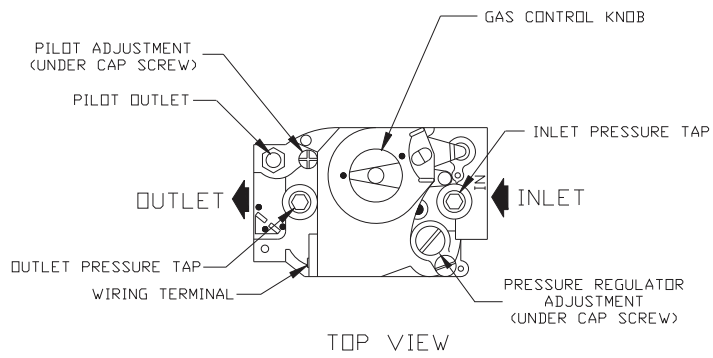

FIGURE 24a: GAS VALVE DETAIL - HONEYWELL VR8204 AND VR8304
- Connect a manometer to the inlet pressure tap on the gas valve (see Figures 24a and 24b).
- c) Connect a manometer to the manifold (outlet) pressure tap on the gas valve (see Figures 24a and 24b).